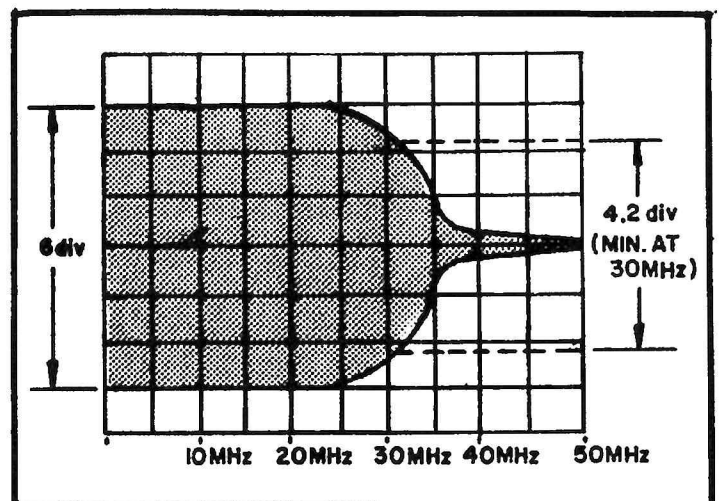

Fig. 22. Frequency Response Display.
5. Disconnect 100 kHz square wave generator and connect rf output of sweep generator to CH B input. Set generator to sweep from 1 kHz to at least 30 MHz with frequency markers each 5 MHz. A display similar to Fig. 22 should be displayed. Set sweep generator level for 6 divisions amplitude at lower frequencies. Repeat adjustments of step 4 for smooth roll off at higher frequencies and amplitude of at least 4.2 divisions (~ 3 dB) at 30 MHz.